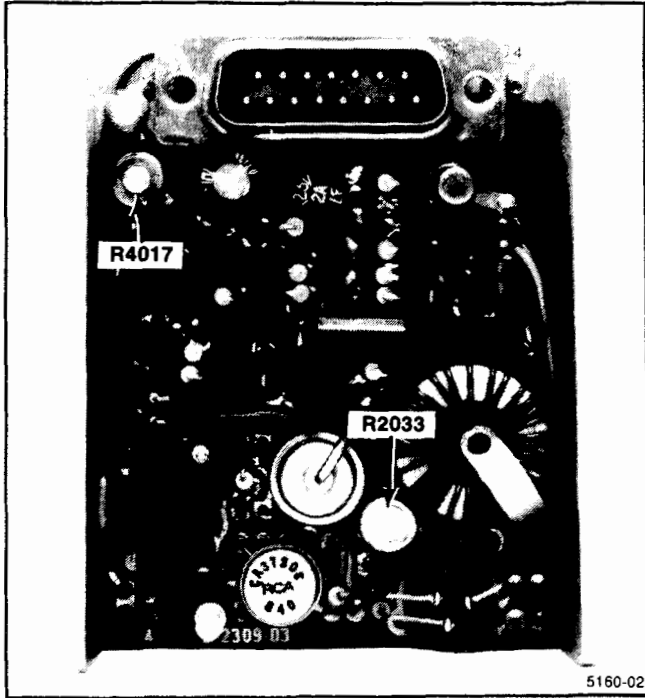

Fig. 4-1. Chart Recorder Controls.
- b. Adjust R4017 (STYLUS TEMP) clockwise to increase the graph intensity or counterclockwise to decrease the intensity. See Figures 4-1 or 8-3 for location of chart recorder adjustments.
- b. Adjust R4017 (STYLUS TEMP) clockwise to increase the graph intensity or counterclockwise to decrease the intensity. See Figure 4-1 for location of chart recorder adjustments.
- c. Adjust R2033 (GAIN) clockwise to increase the amplitude of the chart trace or counterclockwise to decrease the amplitude. See Figure 4-1.